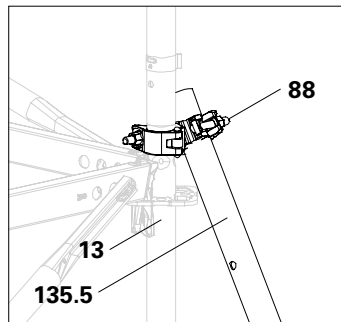

Fig. A15.05a
(Fig. A15.05a):
4. From a safe work location, mount the inner tube to the standard (**13**) with a swivel coupling (**88**). Push the coupling as close as possible to the rosette and tighten. (Fig. A15.05a)